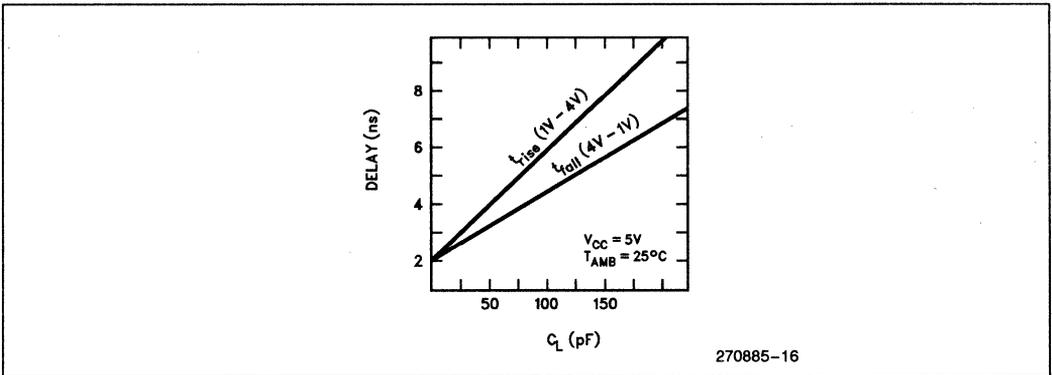

Figure 14
- Specified for a 50 pF load, see Figure 14 for rise and fall times outside 50 pF.
- See Figure 14 for rise and fall times.